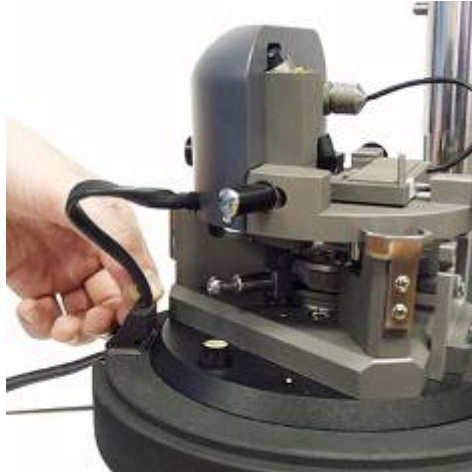

Fig. 2-67
- Plug the measuring head into the receptacle (Fig. 2-67);